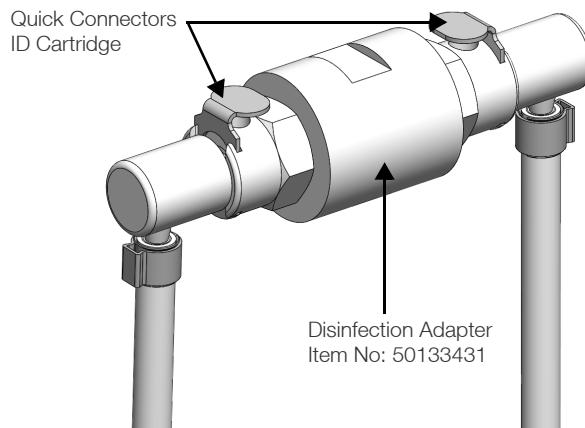

Figure 43. Installing the DI quick connectors
1. Install disinfection adapter, 50133431 in place of DI cartridge. When you hear an audible click you can be sure that the quick connectors have been inserted correctly. Discard used DI cartridge (refer **Figure 43**).